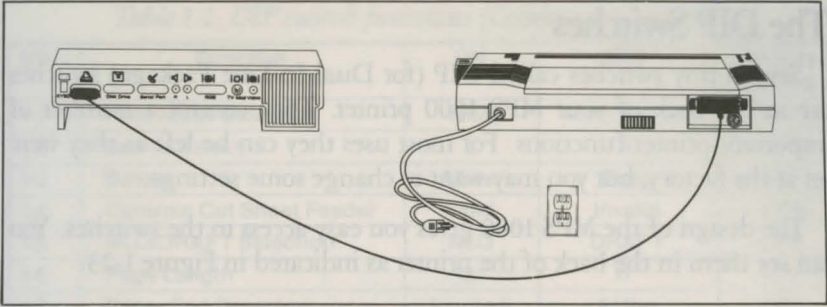

Figure 1-22. Printer to computer hookup (parallel)
1. Refer to the Figure 1-22. Plug one end of your cable connector (36 pins) into the cable connector of the MPS printer. The plug is shaped so that there is only one way it will fit the connector.